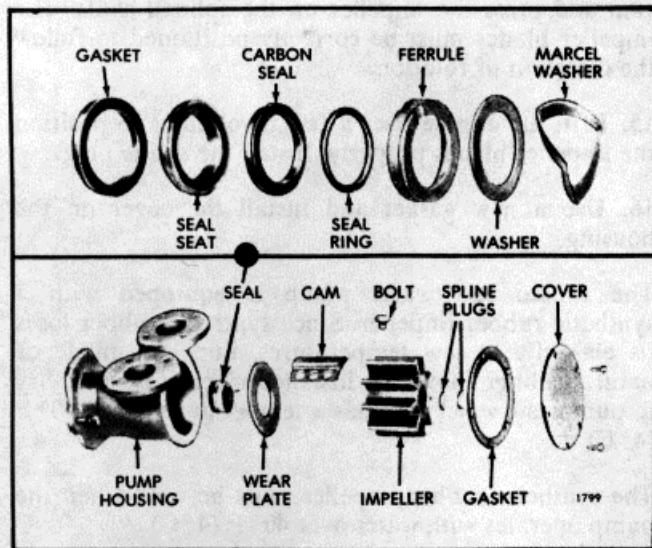

Fig. 20. - Raw Water Pump Details and Relative Location of Parts
The impeller (Fig. 20) is self-lubricated by the water pumped and should be primed before starting the engine.
1. Remove the cover screws and lift the cover and gasket from the housing (Fig. 20). Note the position of the impeller blades to facilitate reassembly.